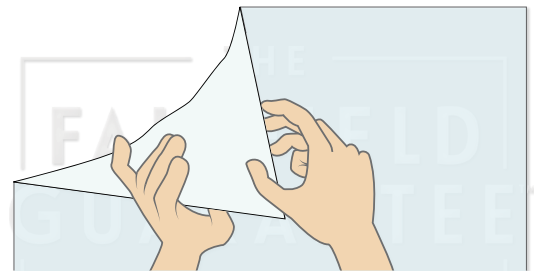

Figure 1
- f. Carefully line the graphic up with your pencil marks to position it in the desired location. Then use a wide strip of masking or painters tape to stick the top edge to the glass surface. This becomes a "hinge" to allow the paper backing to be removed. (See Figure 1)
- h. Begin to apply the graphic with the enclosed felt squeegee. Use light, even pressure and work from the top of the graphic down. (See Figure 1) **CAUTION:** using a hard squeegee may result in squeegee marks in the finished graphic. **You will need to use light pressure due to the nature of an air egress adhesive with a clear film. We recommend testing your pressure with the enclosed practice piece of vinyl first, until you understand the touch needed.**